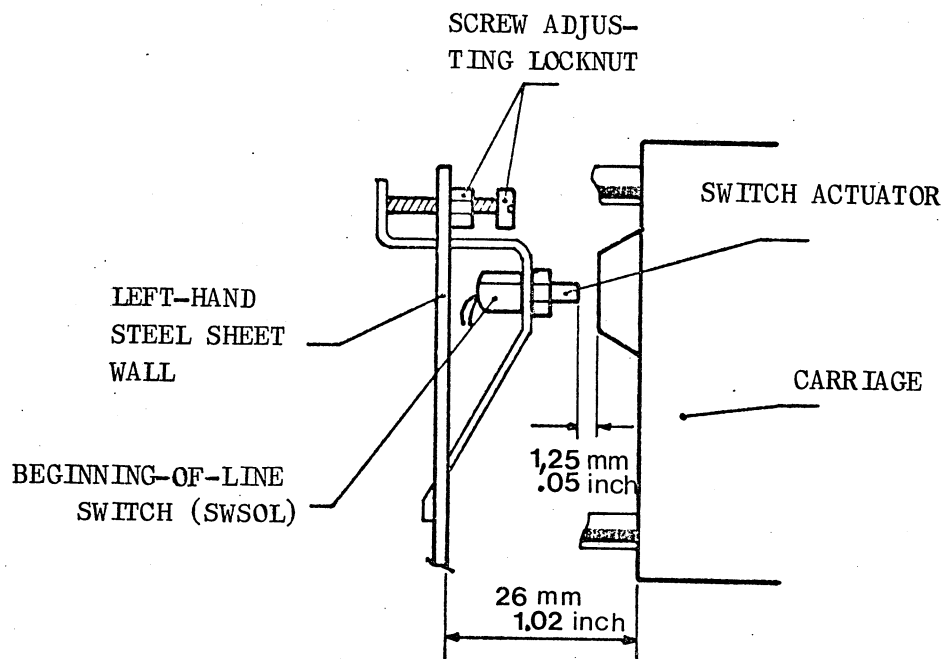

Fig. 8-13
- By acting on the adjusting screw (fig.8.13), move the support of the beginning-of-line switch till the swol signal changes to the opposite state.